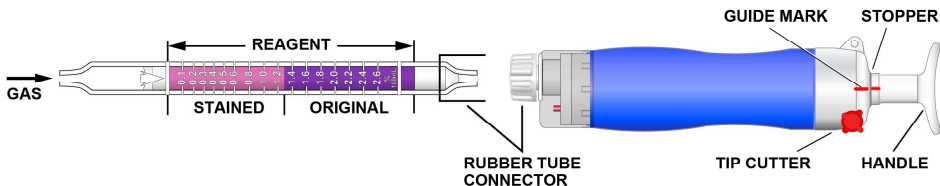

Fig.1
- ① Break both ends of detector tube.
- ② Insert the detector tube into the aspirating pump securely as shown in Fig.1. (Arrow mark shall point to the pump.)
- ③ Align the guide marks on the shaft and stopper of the aspirating pump.
- ④ Pull the pump handle at a full stroke until it locks and wait for 5 minutes or until the completion of sampling is confirmed with the flow indicator of the pump. (See descriptions about the flow indicator in the instruction manual of the pump.)
- ⑤ On completion of sampling, read the scale at the maximum point of the stained layer.
- ⑥ When the concentration is over the scale range, a 1/2 pump stroke can be used to determine concentrations of 0.2 to 5.2 ppm.